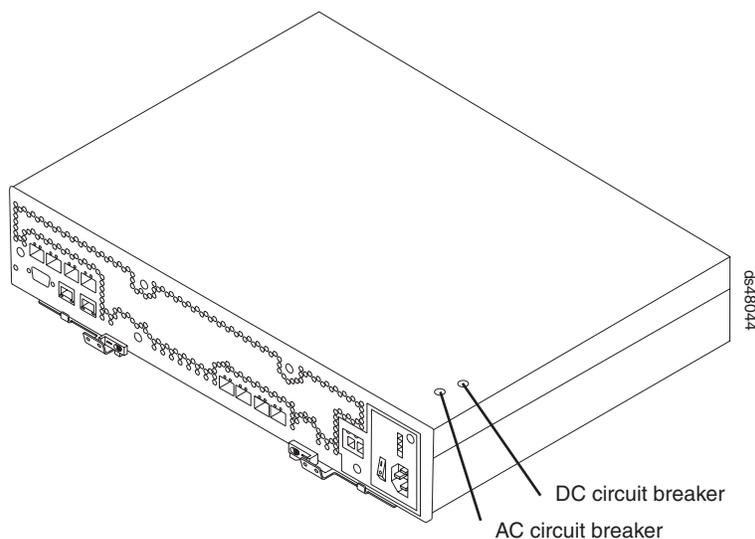

Figure 69. Circuit breaker access holes
8. Insert a nonconducting stylus through the appropriate hole in the cover of the controller and press down gently. One hole is over the AC circuit breaker, a second hole is over the DC circuit breaker. (DC is not currently supported for the DS4800.) Figure 69 shows the location of the circuit breaker access holes in the Controller B cover.
**Note:** When Controllers A and B are inserted in their respective controller slots in the DS4800, the location of the circuit breaker access holes are as follows. On Controller A, the circuit breaker access holes are located on the left side on the bottom of the controller. On Controller B, the circuit breaker access holes are located on the right side on the top of the controller (as shown in Figure 69).